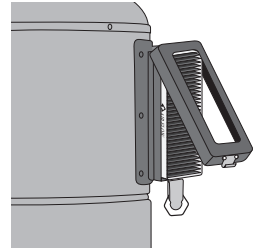

figure 12
1. Unlatch the opening on the carbon filter case and gently flip it upward (**figure 12**).